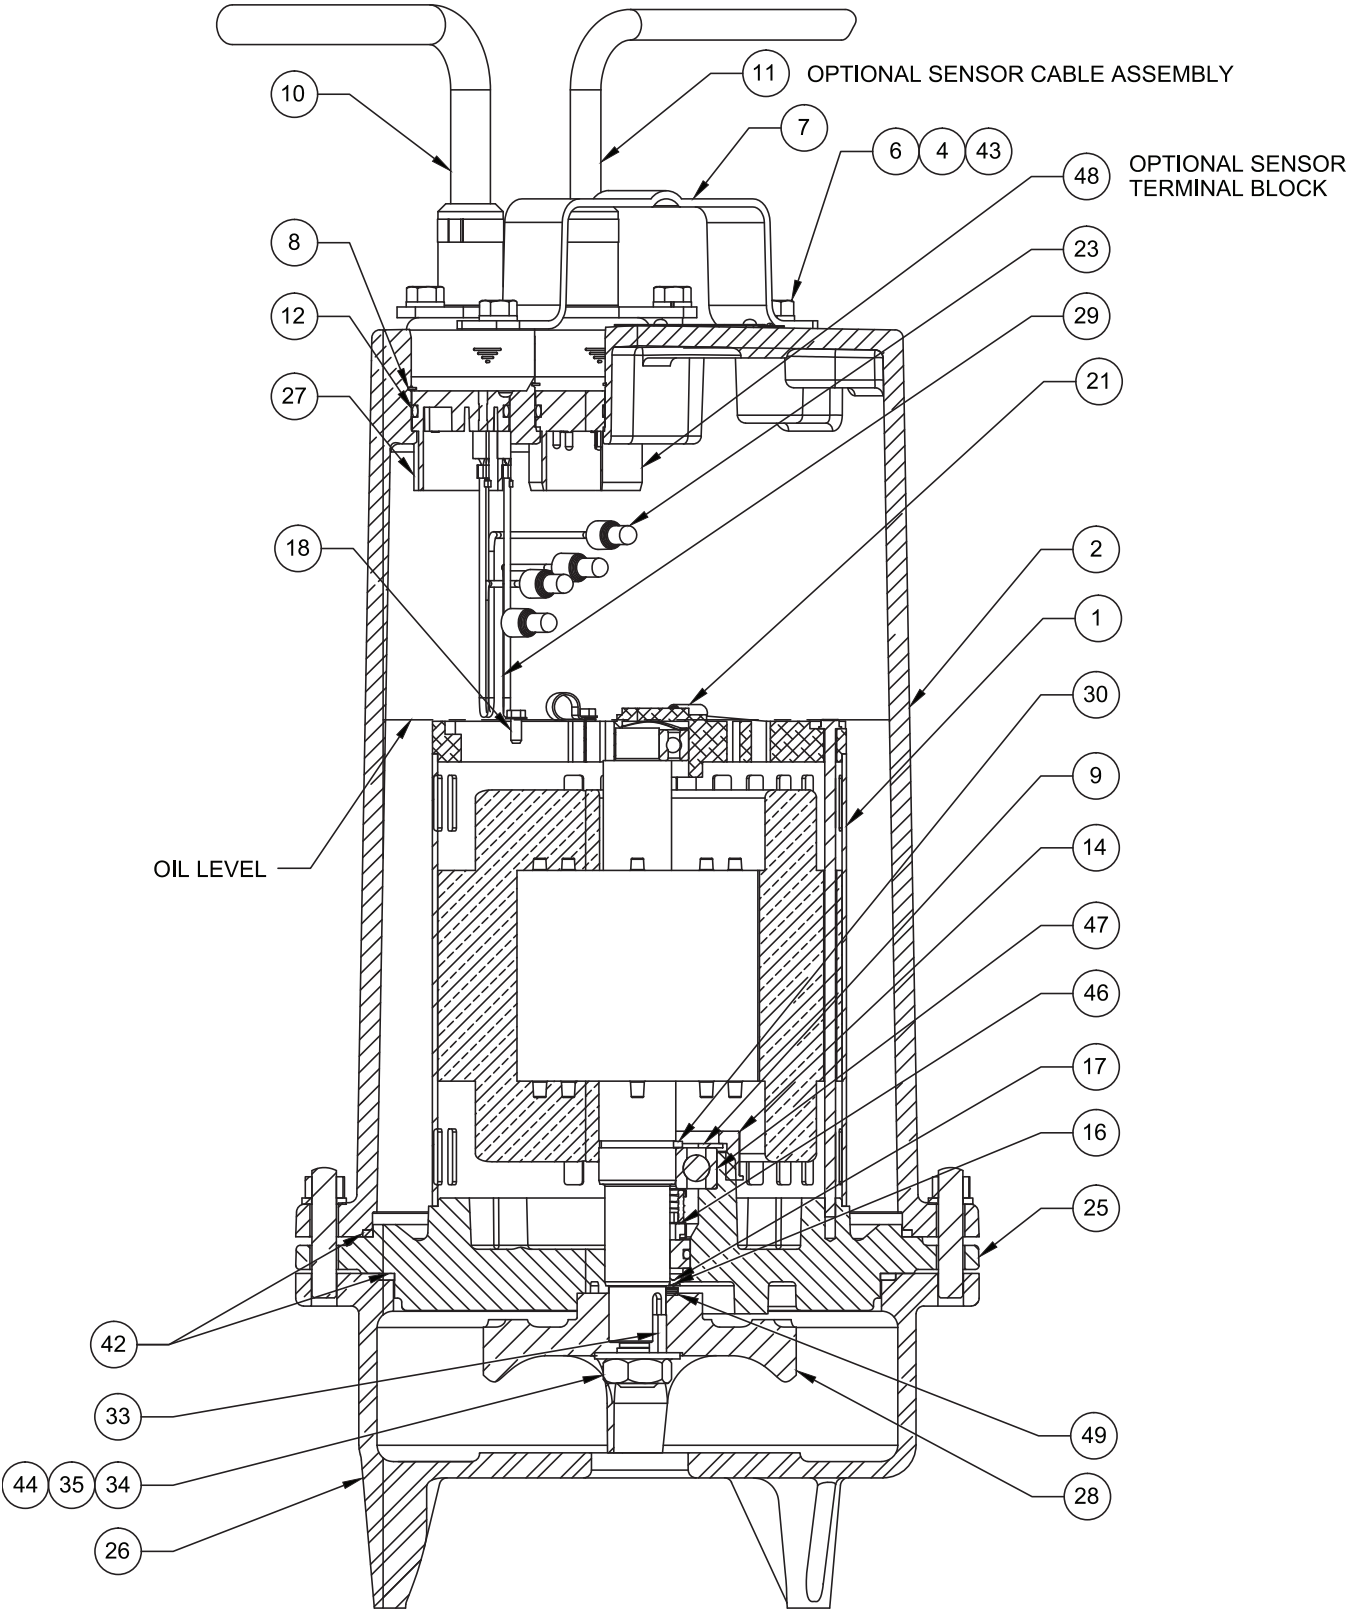

FIGURE 11
To install impeller (28), apply a thin film of oil to motor shaft and slide impeller straight onto shaft, keeping keyways lined up. Drive key (33) into keyway. Locate washer (35), apply thread locking compound to shaft threads, thread hex nut (34) to shaft and torque to 40 ft. lbs. Rotate impeller to check for binding. Position square ring (42) on volute flange and position impeller and motor housing on volute (26). Install lock washer (19) and nuts (20) on studs (24) in volute (26). Torque to 20 ft. lbs. Check for free rotation of motor and impeller. (See Figure 11 or 13)